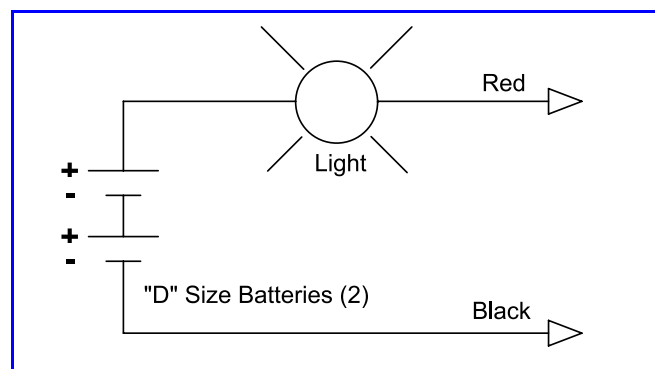

Figure 34 Checking SCR on Test Fixture
2. Build test fixture as illustrated in **Figure 34**.